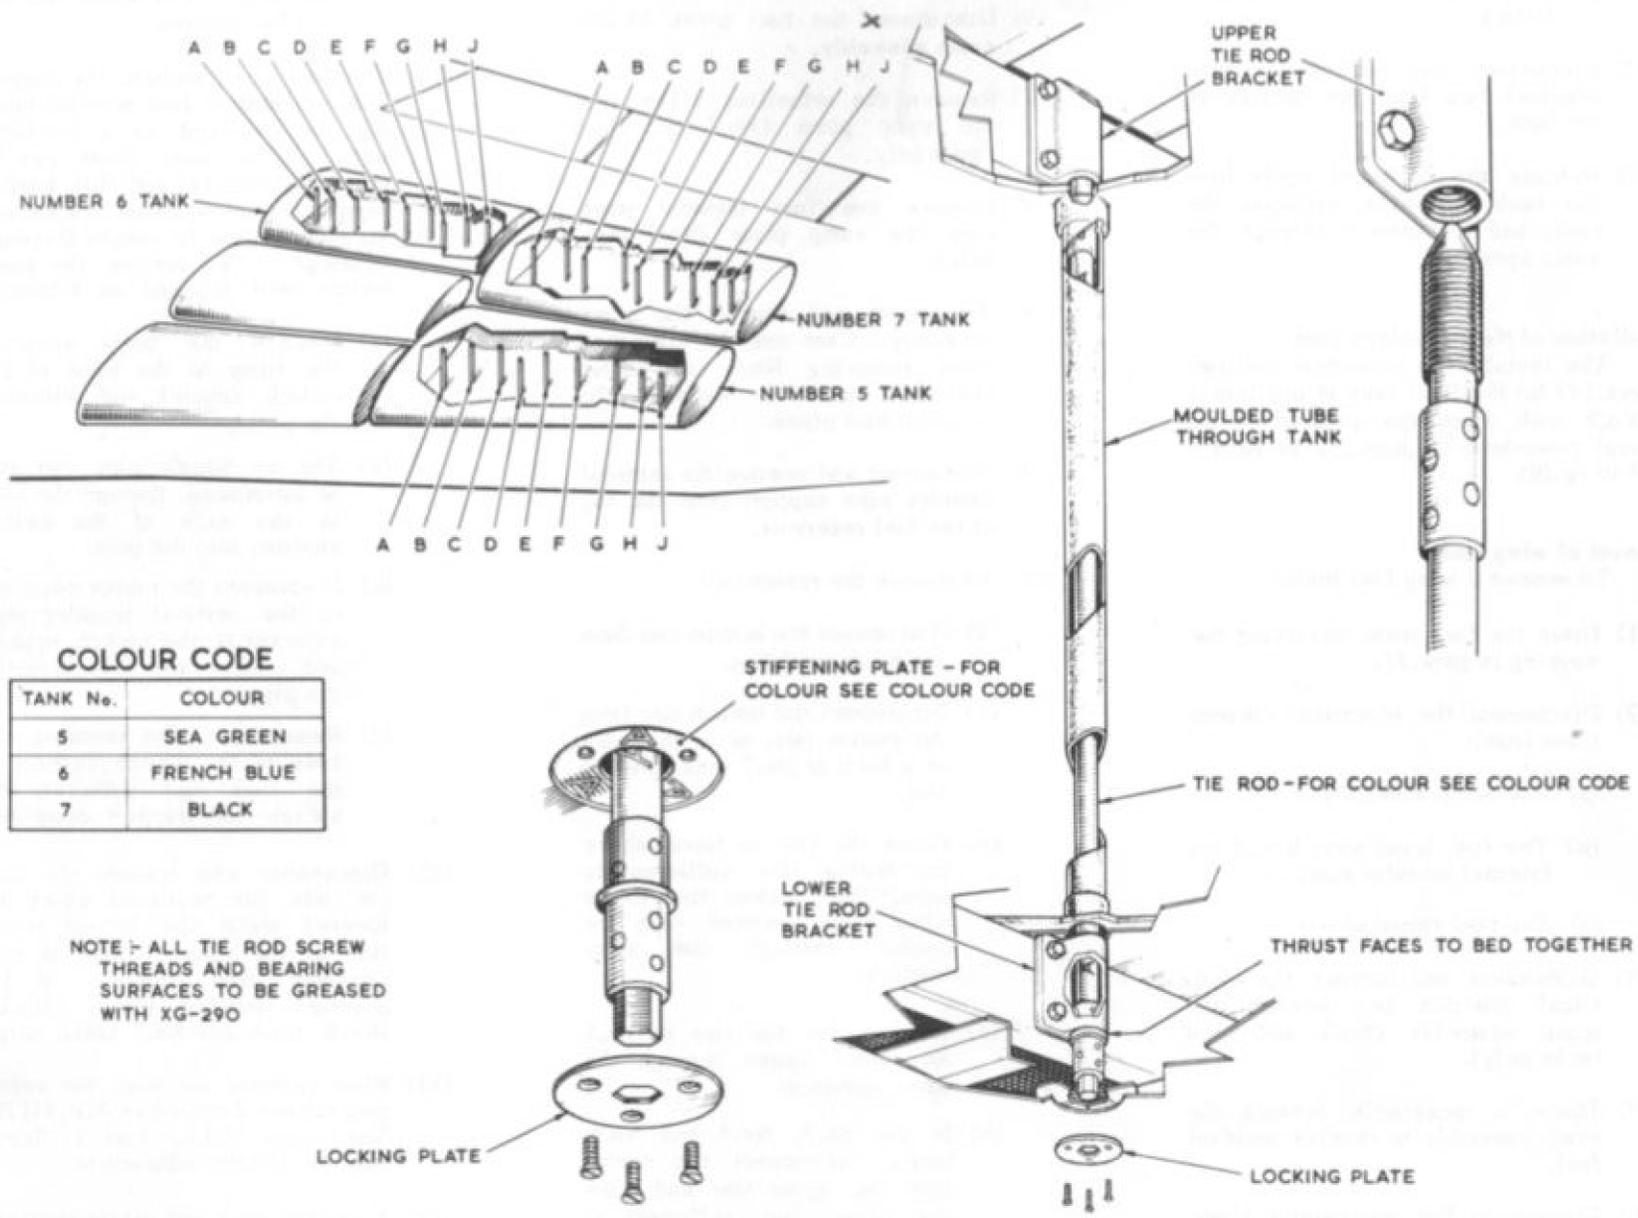

Fig. 19. Arrangement of wing fuel tank tie rods
- (12) The fuel level switch, its support and the internal fuel transfer pump may be removed as a complete unit. The pump alone can be removed however, and this method permits the introduction of a second air supply pipe to ensure thorough venting. To remove the pump switch unit proceed as follows:-
- (13) Disconnect and remove the tank tie rods, the heads of which are located about the lateral centre line of the wing. The tie rods unscrew after removal of the screwed locking plates (fig.19) (No.5, No.6 and No.7 tanks only).
- (14) When entering the tank, the safety precautions detailed in A.P.4117B, Vol.1 and Vol.6, Part 1, Sect.2 must be strictly adhered to.
- (15) Enter the tank and disconnect and remove:-